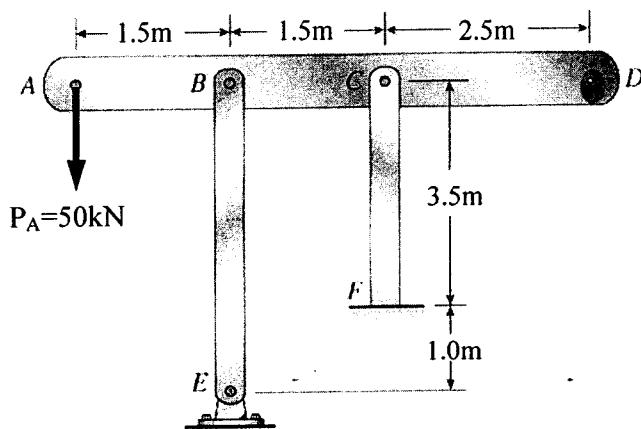
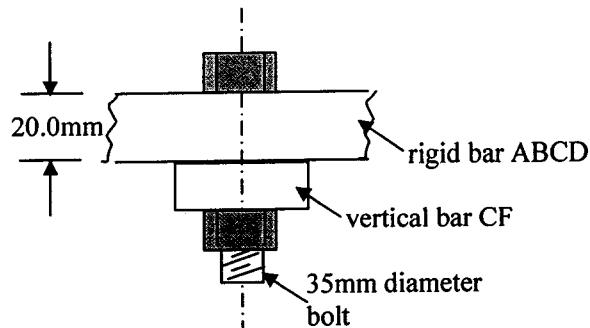

Figure 1
Figure 2
1. Figure 1 shows a rigid bar ABCD which is supported by vertical bars BE and CF at point B and C, respectively. A vertical load of 50kN acts at point A. Both bars BE and CF are made of steel with modulus of elasticity $E=190\text{GPa}$ and cross-sectional area of $A_{BE}=15 \times 10^3\text{mm}^2$ and $A_{CF}=10 \times 10^3\text{mm}^2$, respectively. Connection details of joint C is shown in Figure 2 where the thickness of rigid bar ABCD is 20mm and the diameter of bolt is 35mm.